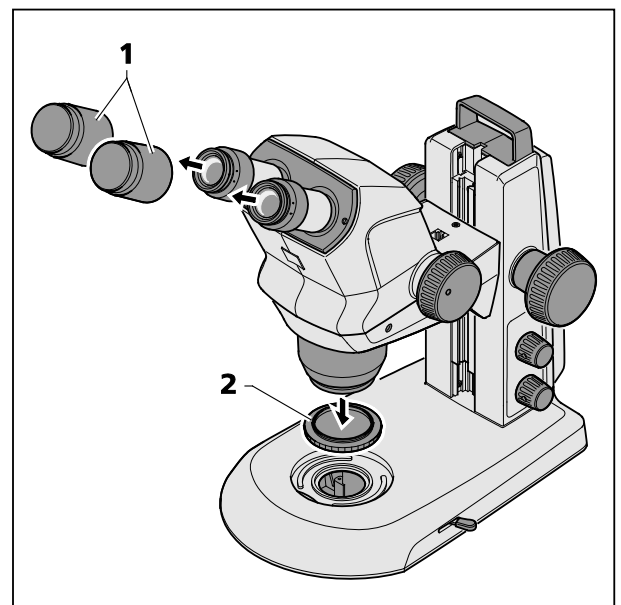

Fig. 6 Removing caps
- Remove the two caps (Fig. 6/1) from the eyepieces.
- Remove the cap (Fig. 6/2) from the specimen by turning it.